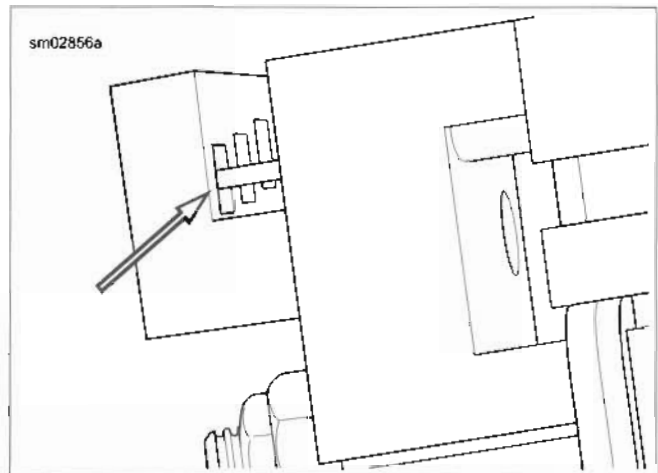

Figure A-55. Pin Terminal against Pin Locator Bar
- b. **Pin Terminal:** See Figure A-55. The tip of a pin terminal passes through the socket locator bar and stops in the notch in the face of the pin locator bar.